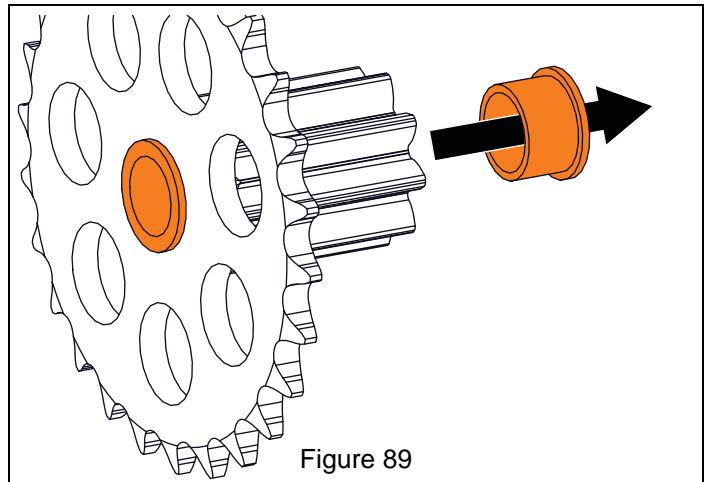

Figure 89
9. Remove flange bushings from pinion gear. See Figure 89.